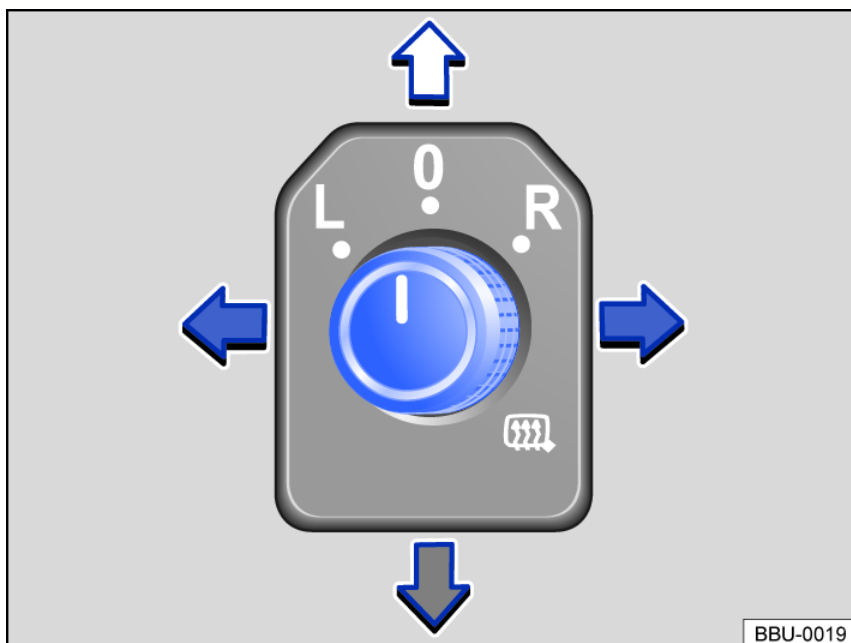

Fig. 86 In the driver door: knob for the outside mirrors.
- Turn the knob in the driver's door to the desired symbol fig. 86.